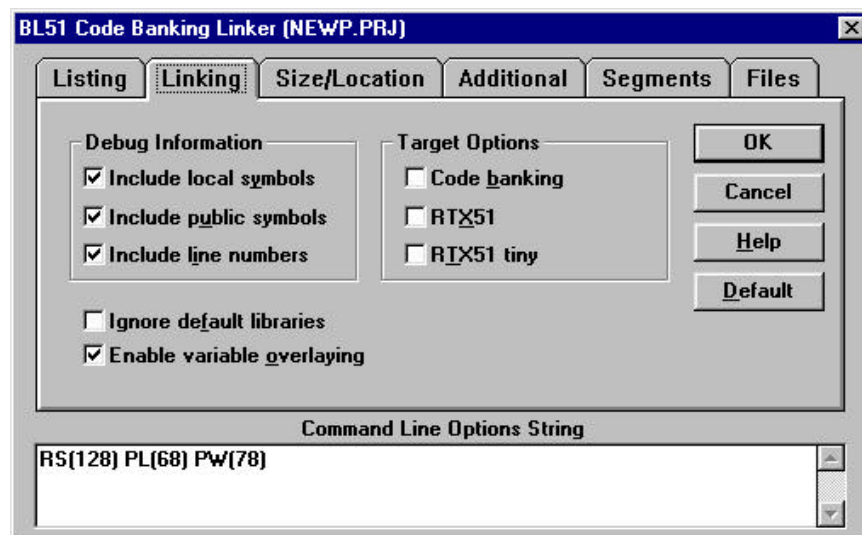

FIGURE 11
- Configure the options in the window as shown in Figure 11 and press *OK*.